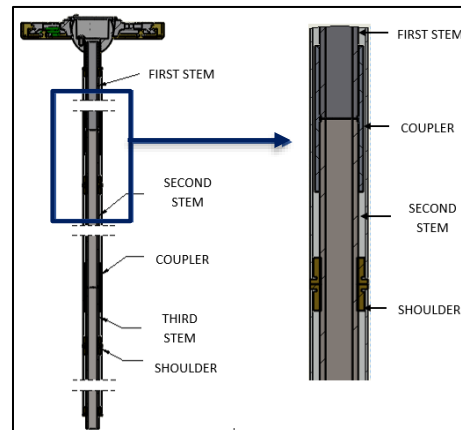

FIG. 14 – DETAIL SHOWING STEM
4. Attach the STEMS based upon the length required using COUPLER and SHOULDER as shown in FIG. 14.